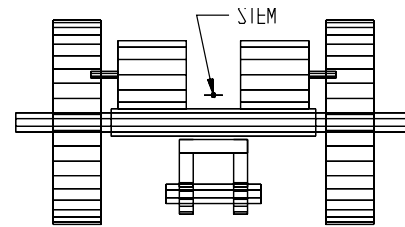

FIG. 22
Step 6. In the Front View, click the green polygon of the stem, Fig. 22 and press ENTER.